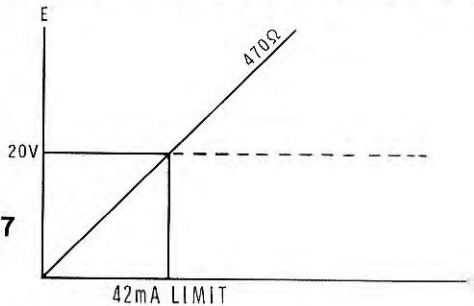

Figure 7
- () Turn the CURRENT control counterclockwise until the voltage just starts to decrease. (The current is now limited to approximately $20/470 = 42$ mA. See Figure 7.)